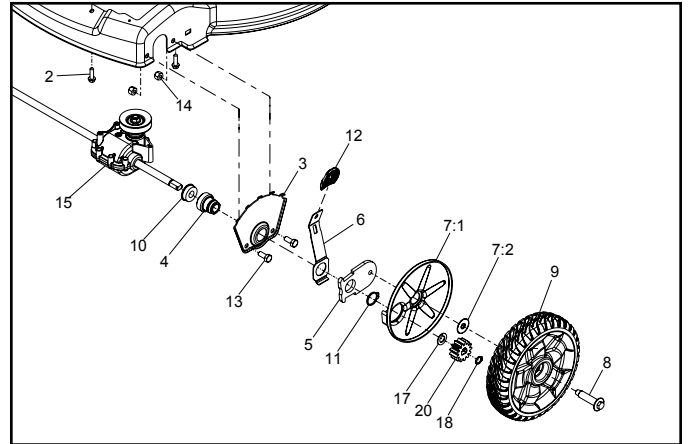

Fig. 153
- Remove both shoulder bolts (#8), wheel assemblies (#9), retaining rings (#18), and pinion gears (#20) (Fig. 153).
- Slide pivot arm assemblies (#5) off of the transmission shafts (Fig. 153).